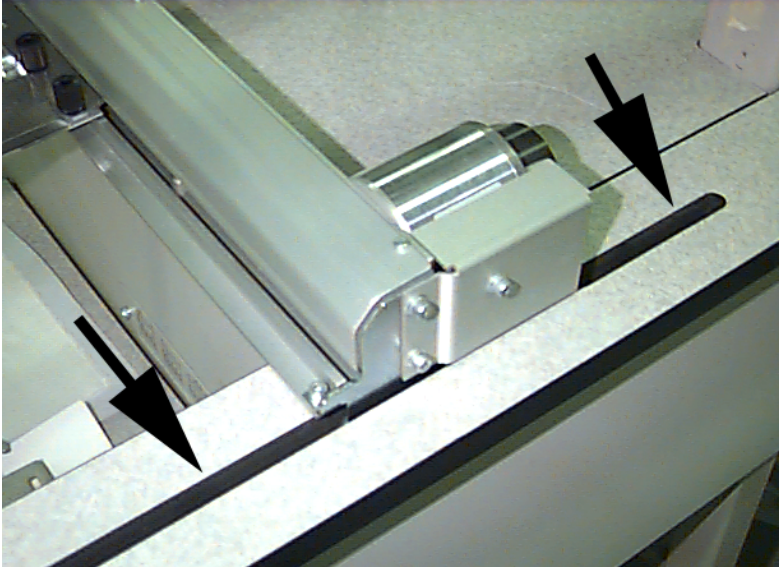

Figure 4-11
4. When **y-rails** is displayed, press . This moves the y-rail into its proper position for oiling. Refer to Figures 4-11 and 4-12 to lubricate the y-rail. Press  when done (the y-rail will move back and forth to distribute the oil).